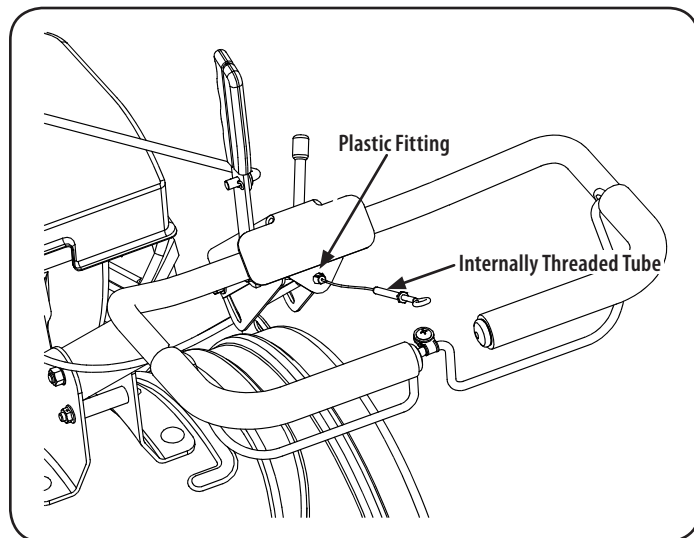

Figure 6
3. Push the cable through the hole in the center of the handle and snap in the plastic fitting. See Figure 6.